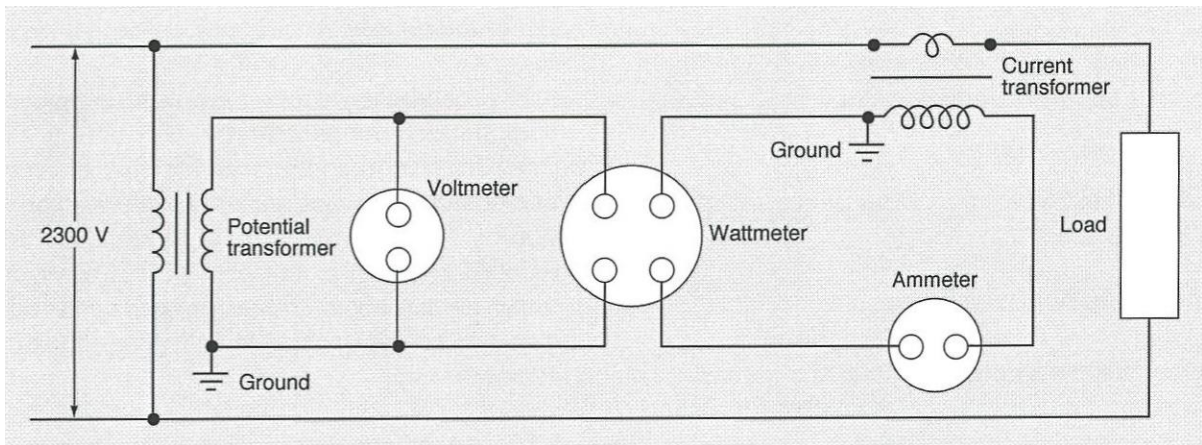

Figure 8.12: Using Potential and Current Transformers
- 8-64 The diagram in Figure 8.12 shows how to measure the current, potential difference, and power in a circuit having a high current and high potential difference. Notice how the potential transformer and current transformer are connected.